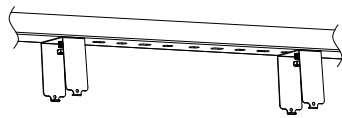

Figure 6
- Step 1. Mount the bracket on the rail or ceiling; (Figure 6)